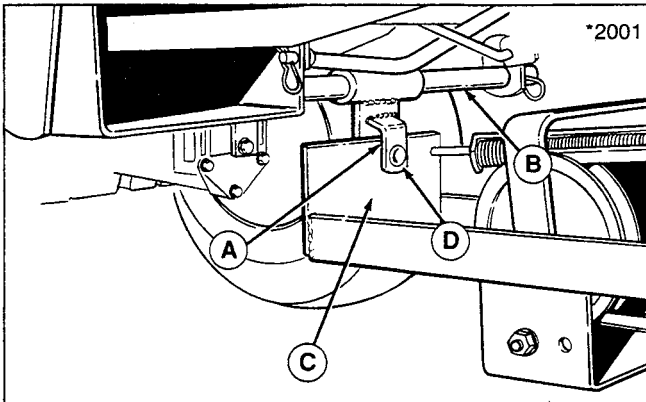

Figure 2. Install Rear Hitch
4. Install the rear hitch bracket (A, figure 2) onto lift lever rod (B) as instructed in lift lever kit. Secure rear of hitch (C) with clevis pin (D) and safety clip.